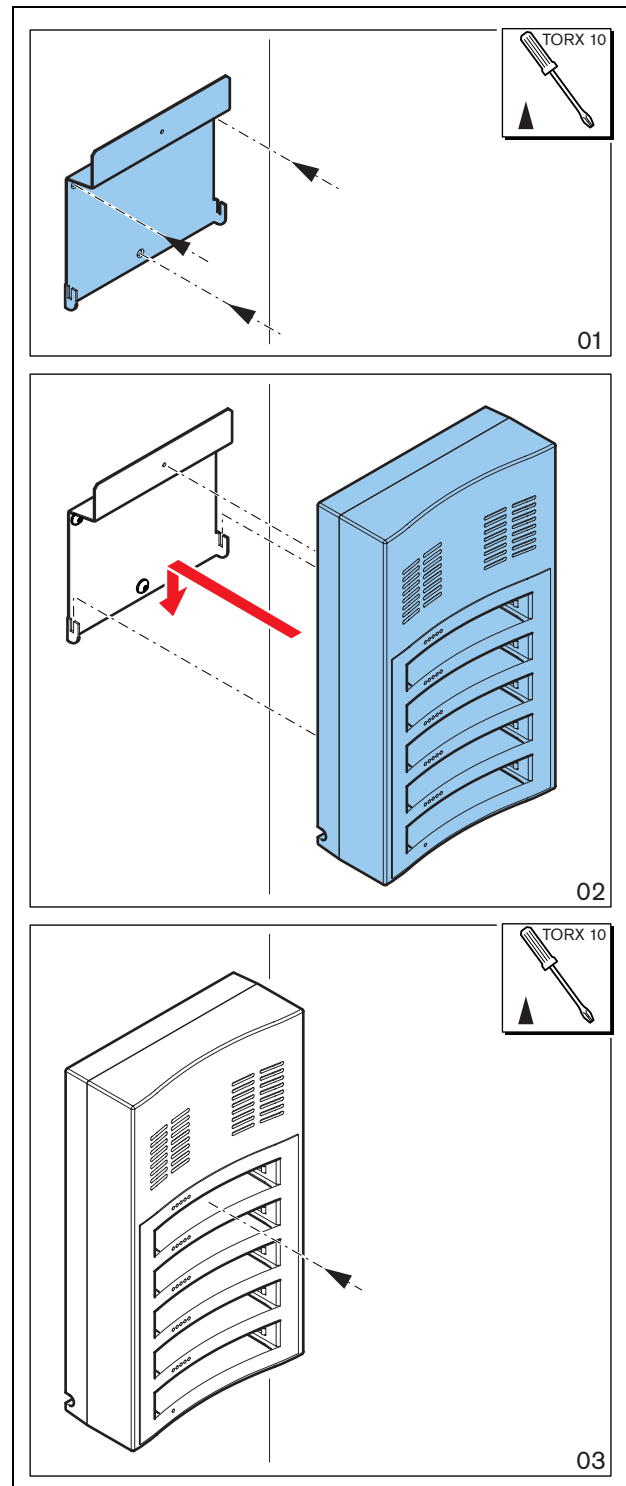

figure 17.2: Installation, wall
You can use the bracket to attach the battery charger to a wall. Refer to figure 17.2.
- The vertical distance between two brackets is at least 340 mm (refer to  $d_1$  in figure 17.2).
- The horizontal distance between two brackets is at least 195 mm (refer to  $d_2$  in figure 17.2).